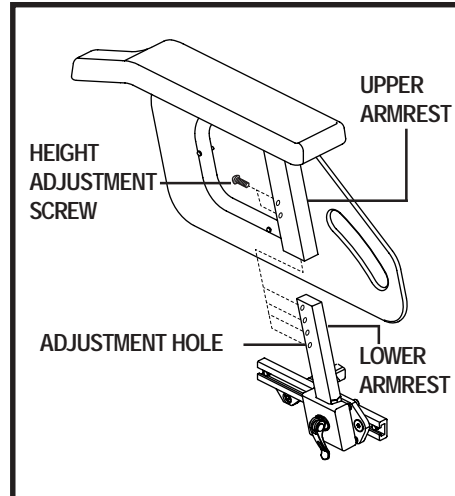

Figure 11. Armrest Height Adjustment
1. Remove the height adjustment screw from the armrest. See figure 11.